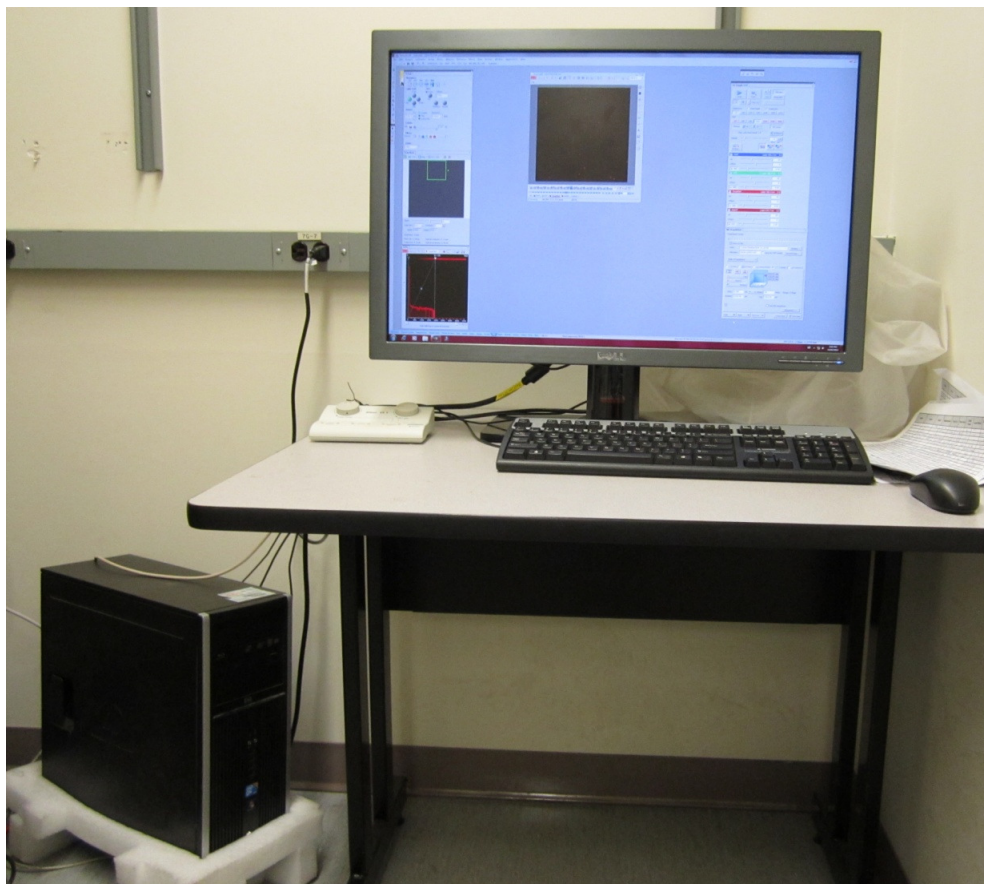

Figure 18. HP workstation computer and monitor.
- 5.6.7 Turn on the computer workstation and Monitor (Figure 18)